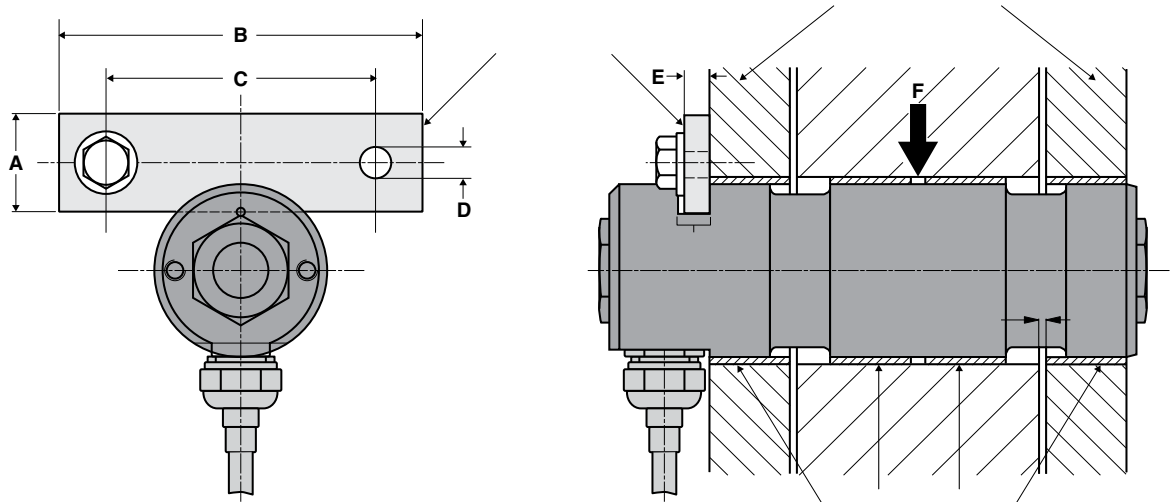

Fig. 2-2. Instalation of the pin holder key
1. Machine the pin holder key to the dimensions given (see Fig. 2-2). Bore and thread the fastening screw holes according to the specified dimensions (respect both bore and thread depth). The mortise on the load measuring pin is by 0.5 mm wider than the pin holder key. Thus no strain can be transmitted through the key to the pin itself.